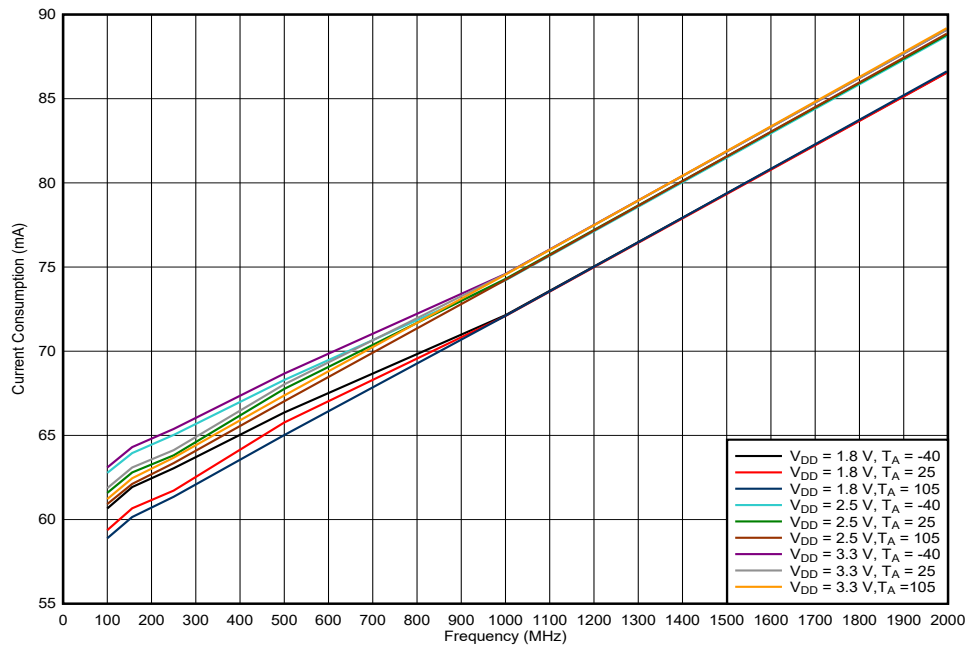

Figure 7-1. LMK1D1208I Current Consumption vs. Frequency
- (1) Measured between single-ended/differential input crossing point to the differential output crossing point.
- (2) For the dual bank devices, the inputs are phase aligned and have 50% duty cycle.
- (3) Defined as the magnitude of the time difference between the high-to-low and low-to-high propagation delay times at an output.
- (4) Applies to the dual bank family.
- (5) Time starts after the acknowledge bit
- Figure 7-1 captures the variation of the LMK1D1208I current consumption with input frequency and supply voltage.
It is important to note that Figure 7-1 and Figure 7-2 serve as a guidance to the users on what to expect for the range of operating frequency supported by LMK1D1208I. These graphs were plotted for a limited number of frequencies and load conditions which may not represent the customer system.